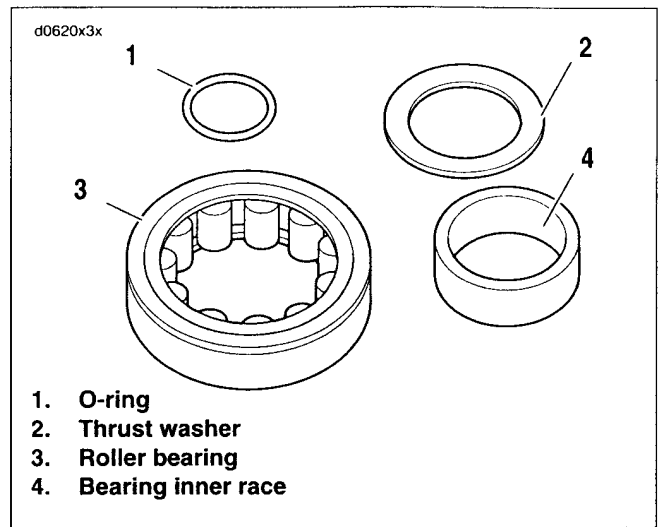

Figure 3-135. Rear Cam Roller Bearing Kit
1. See Figure 3-135. Obtain **new** rear cam roller bearing kit (Part No. HD-8983).
- a. To properly locate thrust washer (2), first install O-ring (1) in grinding relief groove. Groove is on the splined end between the machined area and the secondary cam sprocket. Exercise caution to avoid stretching or breaking the O-ring. Since the O-ring is not sold separately, damage will require purchase of a new roller bearing kit.